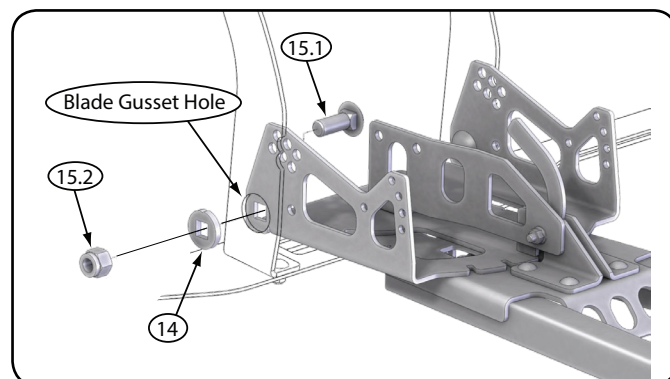

Figure 7 - Pivot Bolt Assembly
5. Place washer bearing (14) into hole in blade gusset and secure blade to tube system by fastening with the $1\frac{1}{2}$ in. (38.1 mm) carriage bolt (15.1) and lock nut (15.2), as shown in Figure 7. Repeat on right hand side.